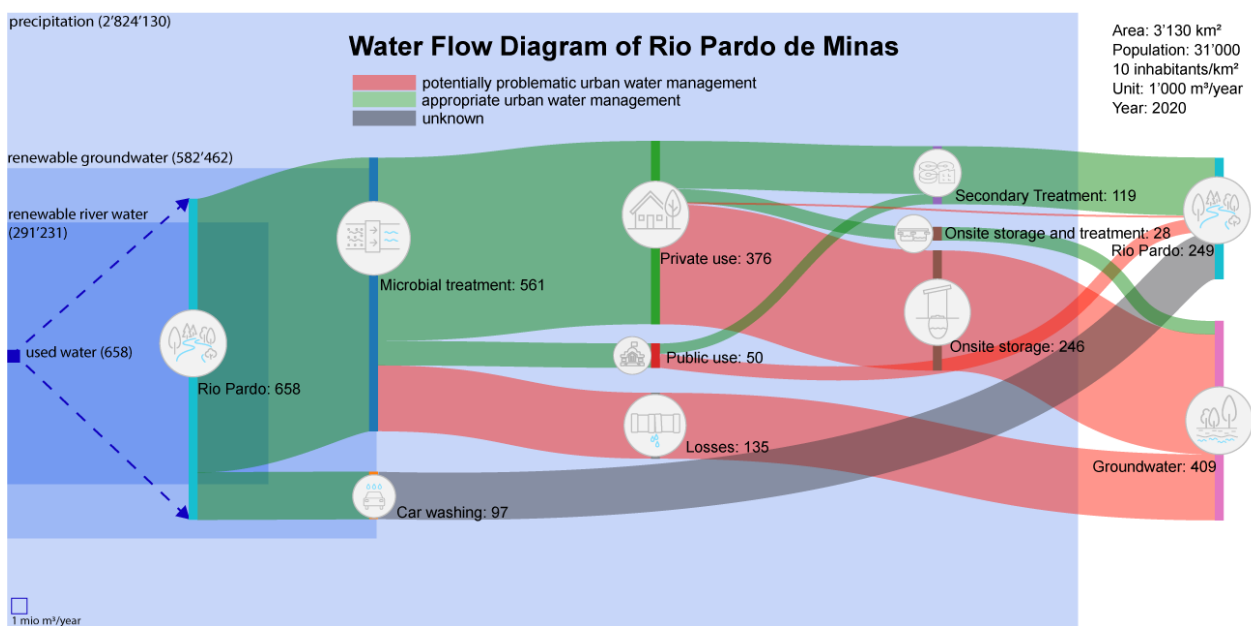

Figure 4: Example of a final WFD including the squares of the renewable water
5. Insert squares for the renewable water use (see Box 1 and Figure 4)
An example of a final WFD is presented in Figure 4.